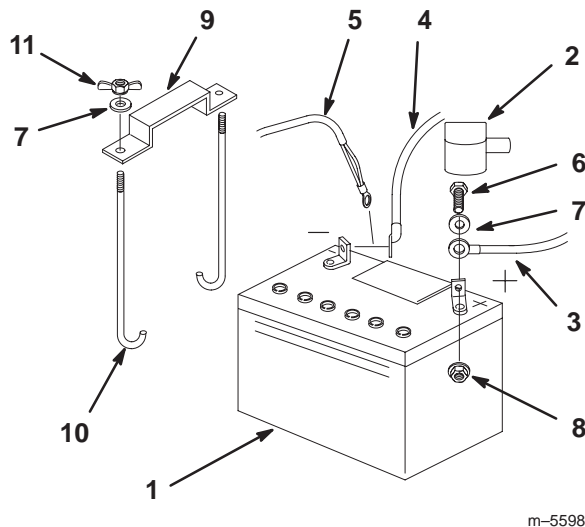

Figure 62
1. Position the battery in the tray with the terminal posts toward the engine (Fig. 62).
4. Secure the cables with 2 bolts (1/4 x 3/4 inch), 2 washers (1/4 inch), and 2 locknuts (1/4 inch) (Fig. 62).
6. Secure the battery with J-bolts, clamp, 2 washers (1/4 inch), and 2 wing nuts (1/4 inch) (Fig. 62).
4. Disconnect the negative battery cable and the ground wire from the negative (-) battery terminal (Fig. 62).
6. Remove the positive (red) battery cable (Fig. 62).
7. Remove both wing nuts (1/4 inch) that secure the battery clamp (Fig. 62).